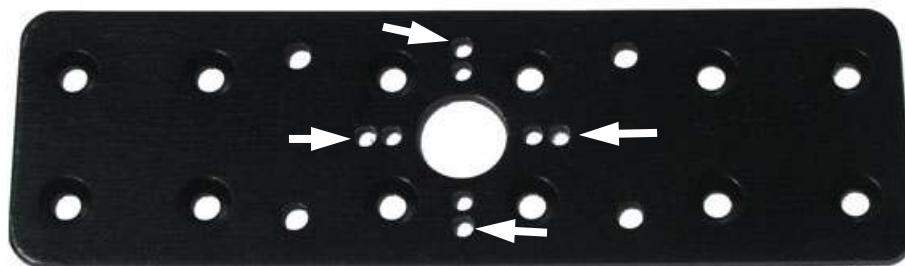

Figure 17
- If you are installing the dual axis to the RX/MX64/106 Pro-Turntable, use the screws holes of the outer bolt circle and the M2.5 - 10mm screws for the MX-64 and the M2.5 - 8mm screws for the MX-106. (Figure 17).